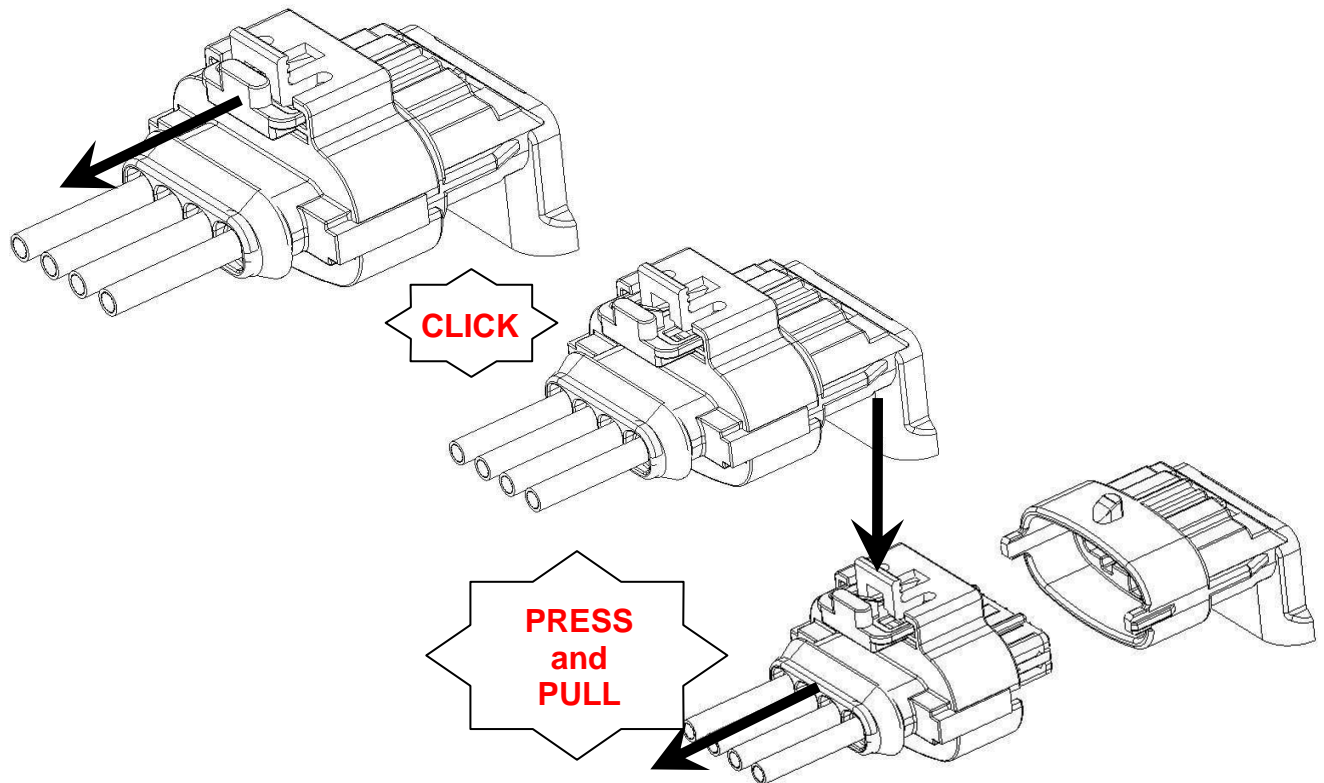

FIGURE 5 - CPA EXTRACTION
- a) Pull the CPA in the direction shown by the arrows until pre-position, see Figure 5 below.